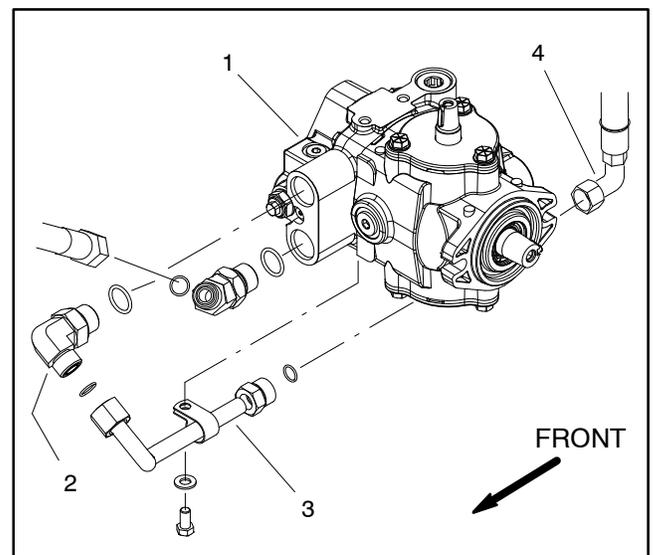

Figure 21
5. Disconnect hydraulic hose from the hydraulic tube that connects to the upper hydraulic fitting on the front side of the piston pump (Fig. 21).